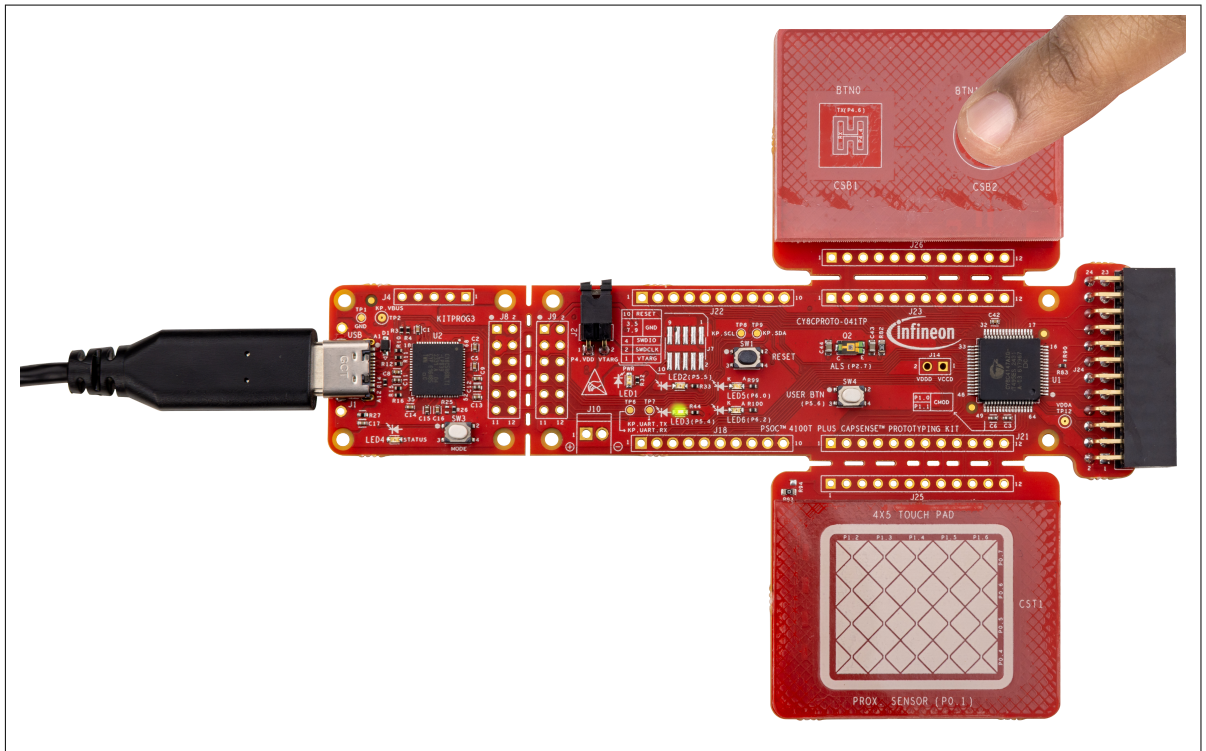

Figure 7 CAPSENSE™ CSD button operation with LED indication
2. Touch the self-capacitance-based button (CSB2) and observe that LED3 (green) turns on, as shown in Figure 7. Touch the mutual-capacitance-based button (CSB1) with your finger and observe that LED2 (red) turns on, as shown in CAPSENSE™ CSX button operation with LED indication